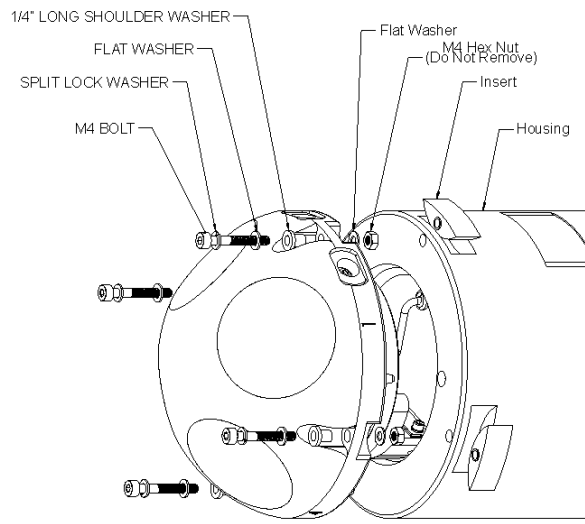

Figure 33. Transducer Head Mounting Hardware
6. Examine the transducer assembly nuts, bolts, and washers for corrosion; replace if necessary. Figure 33 shows the assembly order of the transducer mounting hardware. All hardware items are needed to seal the DVS properly.